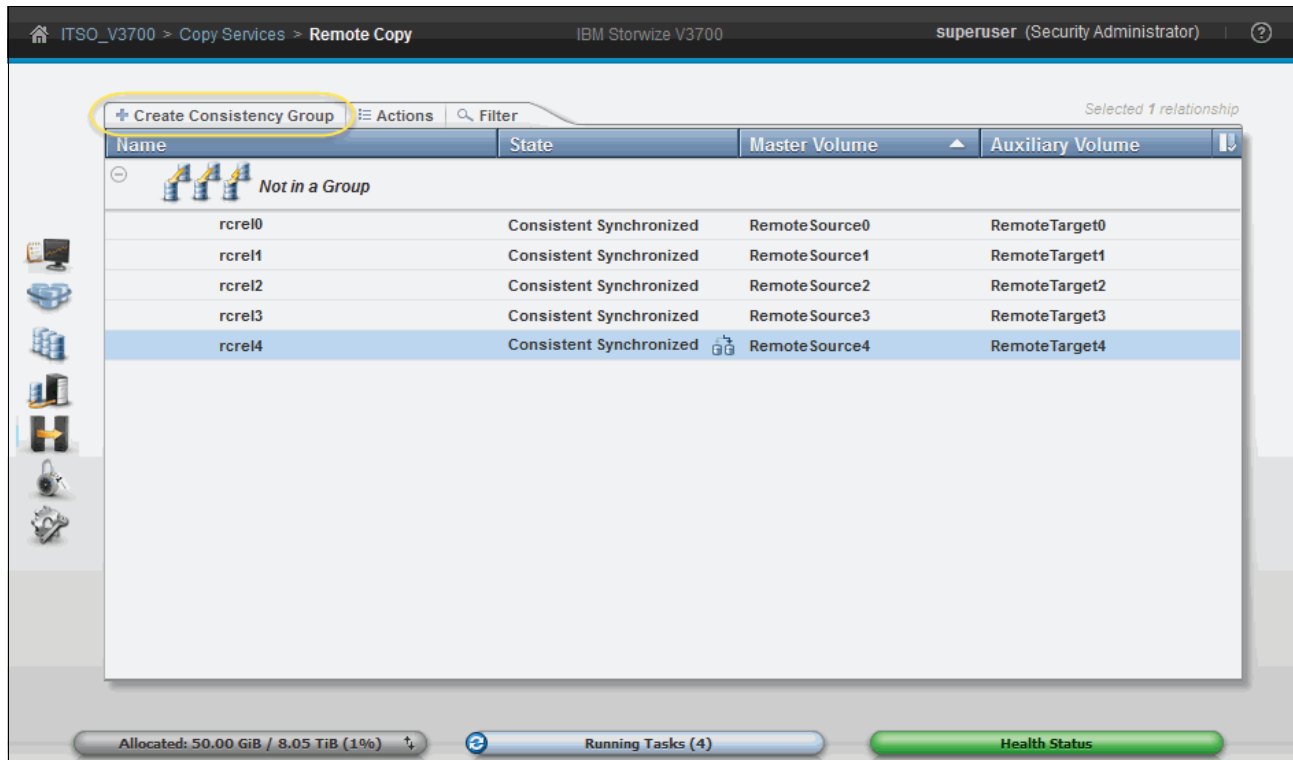

Figure 10-120 Create a Remote Copy consistency group
1. Click **Create Consistency Group**, as shown in Figure 10-120.